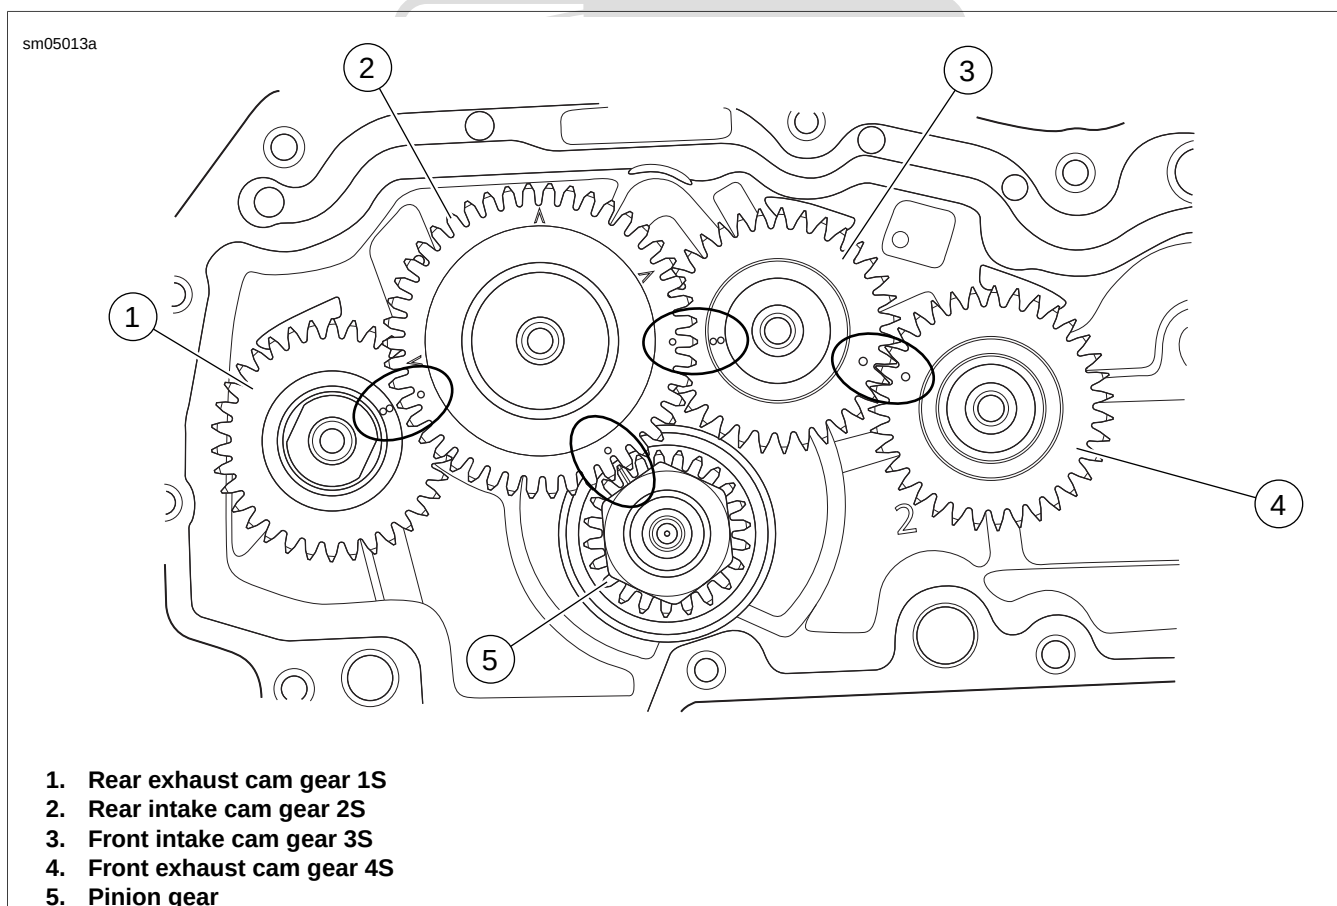

Figure 3-100. Cam, Pinion Gear and Timing Mark Indexing: XR Models (Cam #2 "V" marks are not used for timing)
See Figure 3-100. Because of the larger diameter gear on the outboard end of the rear intake cam gear (2), the rear exhaust (1) and front intake (3) cam gears must be installed before the rear intake cam gear is installed.
5. See Figure 3-100. Rotate crankshaft until timing mark on pinion gear (5) points exactly at centerline of rear intake cam bore.
See Figure 3-100. "V" marks on rear intake cam (2) are not used for timing of Sportster model engines.
8. Install rear intake cam (2). As you install this cam, rotate it so that the three timing marks (dots) line up exactly with timing marks on the pinion gear, rear exhaust cam and front intake cam.
9. Install front exhaust cam (4). As you install this cam, rotate it so that its timing mark (a dot) lines up with timing mark (dot) of front intake cam.
Make sure all timing marks on cams line up correctly, as shown in Figure 3-100. If necessary, remove a cam, rotate it slightly, and re-install it. If timing marks are off even one tooth, engine will not run correctly.